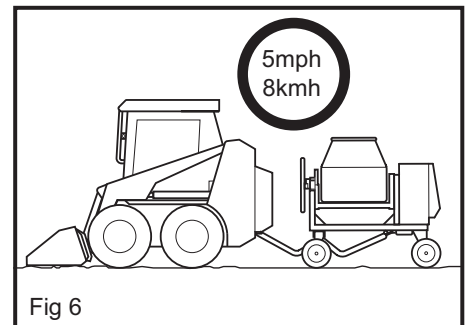

Fig 6
- These mixers are designed for to be towed on-site only maximum speed 5mph/8 kmh (Fig 6), for short periods of time.